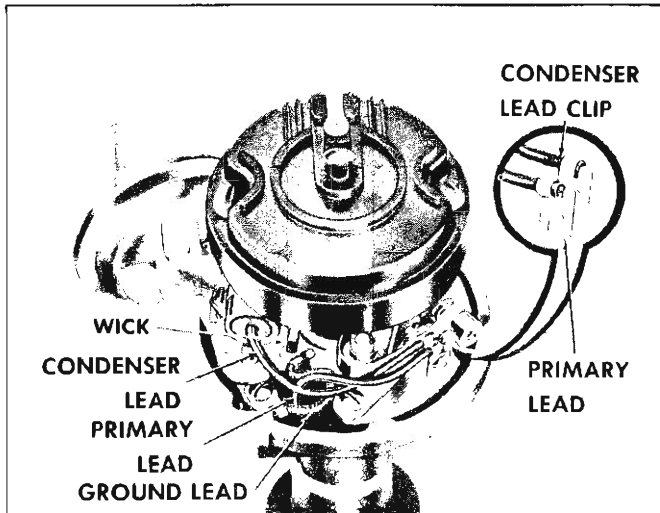

Fig. 6i—Distributor Lead Arrangements
4. Remove the primary and condenser leads from their nylon insulated connection (fig. 6i) in contact set.
**CAUTION:** Install the primary and condenser leads as shown in Figure 6i. Improper installa-
2. Loosen condenser lead attaching screw (fig. 6i) and lift out condenser lead clip.
**NOTE:** Make sure that new condenser lead is installed in proper position (fig. 6i).